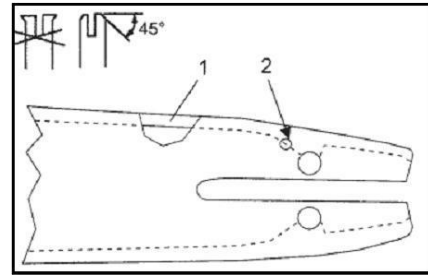

Fig. 26
- 1- Properly clean the bar grooves (see 1 in Fig 26) and the hole for oil supply (see 2 in Fig 26).